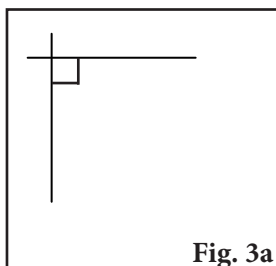
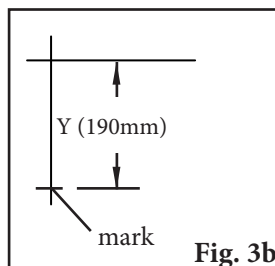
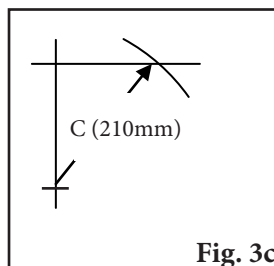
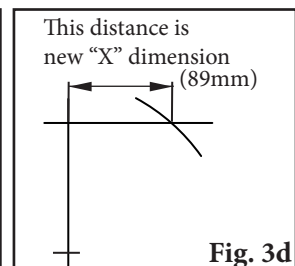

Fig. 3a
Fig. 3b
Fig. 3c
Fig. 3d
3. **Determine final dimension.** On a flat vertical surface, using a level, draw one horizontal line and one vertical line, creating a right triangle (Fig 3a). Measure down from the intersection the determined “Y” dimension and mark (Fig 3b). With the tape measure starting at the modified “Y” mark, swing the tape across the “X” line and mark at the “C” dimension where it crosses the “X” line (Fig 3c). Measure from the intersection to the “C” intersection and this will be your new “X” dimension (Fig. 3d).